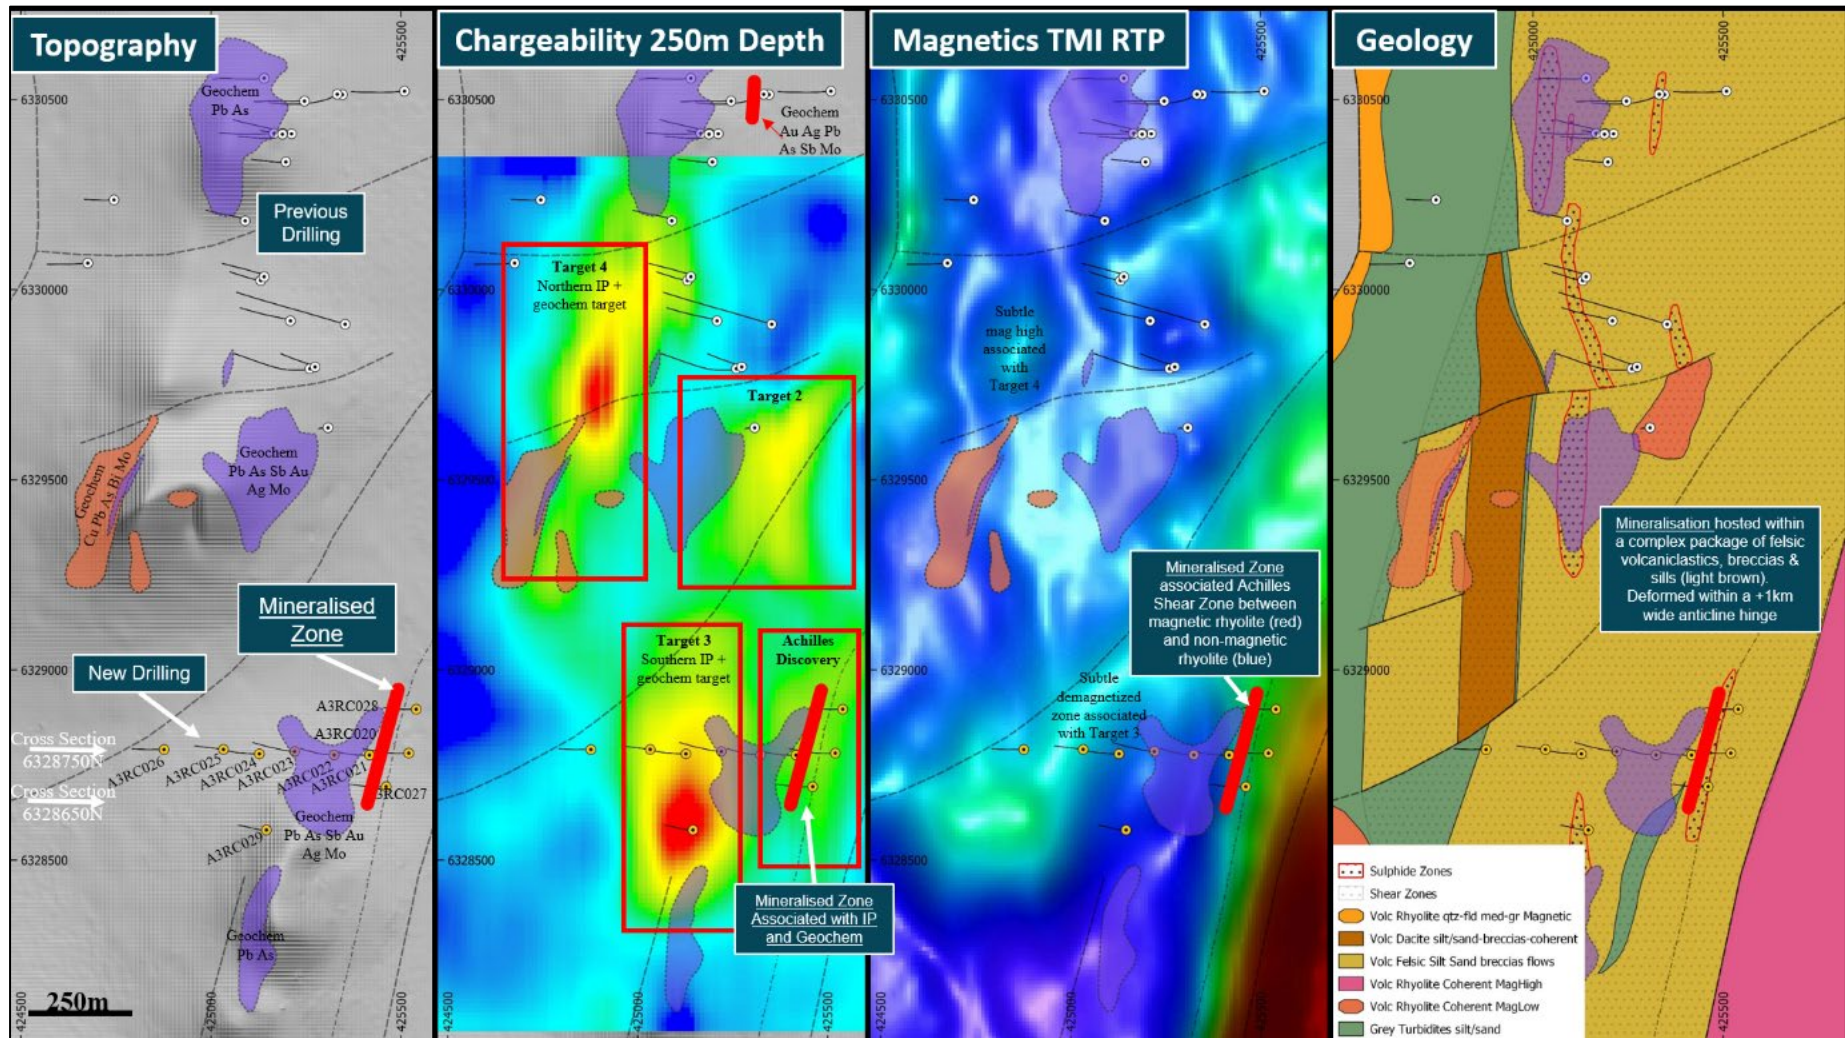

Figure 5: Achilles technical maps showing the locations of the current mineralisation relative to the other three targets1.
A new drilling program is scheduled to begin this week comprising up to twenty reverse circulation (RC) holes followed by ten diamond core holes, focused on extending the strike length and depth of the deposit, along with the continuity of the high-grade zones. Additional nearby ‘look-a-like’ targets will also be drill tested during the upcoming campaigns (see Figure 5).
RC drilling will commence in the coming week with a focus on extending mineralisation along strike to the north and south. This will be followed by diamond drilling to test the depth extent of the high-grade zones, along with further drilling at three additional targets at Achilles (see Figure 5).